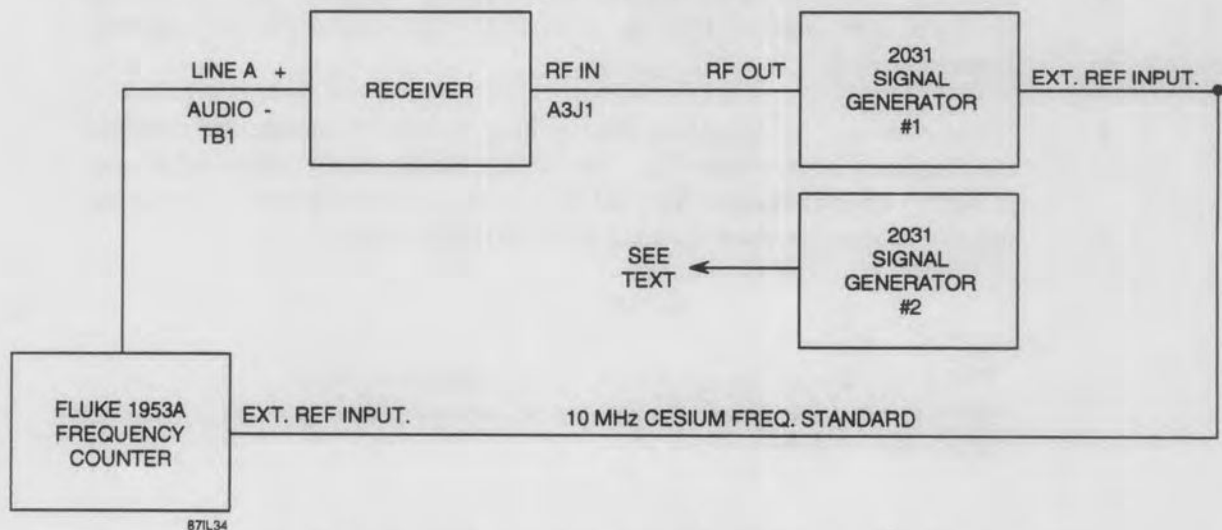

Figure 7-3. Reference Frequency Timebase Accuracy Performance Test Equipment Connection
1. Connect the HF-1000 Receiver and test equipment as illustrated in **Figure 7-3**. Apply power to the receiver and test equipment and allow a warm-up period of at least 30 minutes before proceeding with the timebase testing.